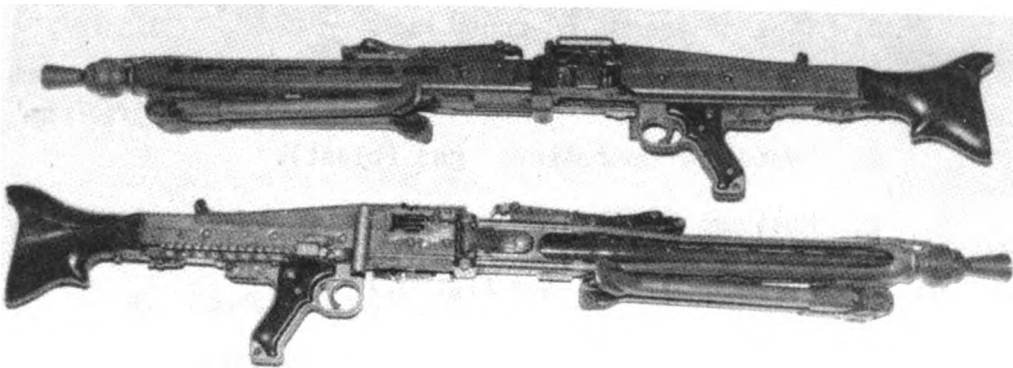

Figure 4
4. Identify The MG-3. (See fig. 4.)